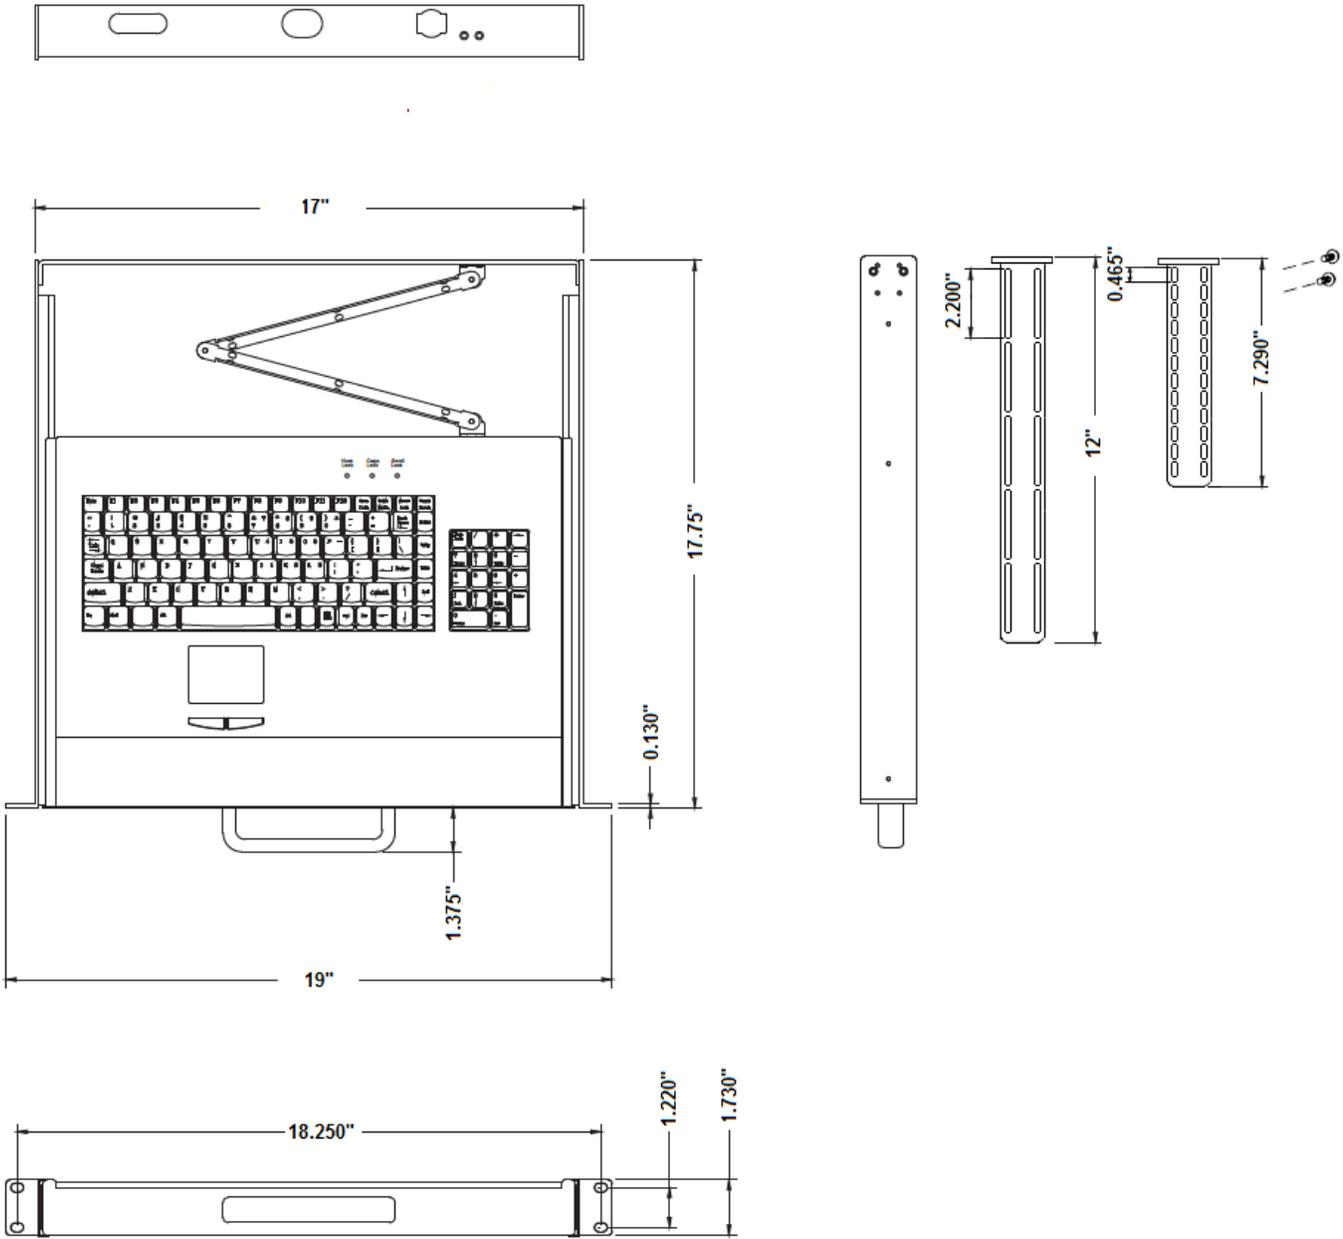

Figure 1: Product Dimensions
4. Check that the RackView Keyboard assembly will slide in flush with the front rack rails, and open fully with no binding. See Figure 1 for further reference.